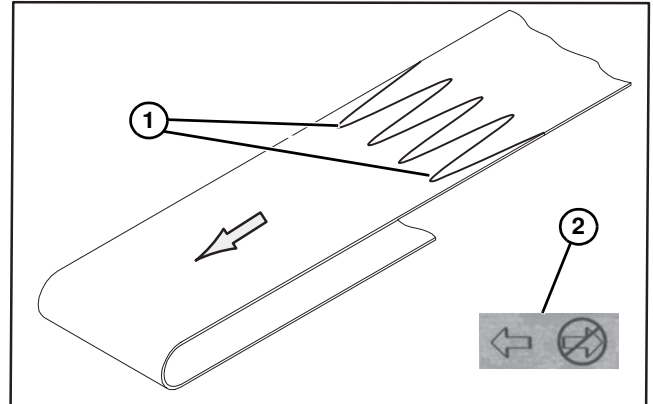

Figure 50
1. Orient belt so splice outer fingers (Figure 50, item 1) point in the direction of belt travel as identified by the conveyor directional label (Figure 50, item 2).
2. Orient belt so splice outer fingers (Figure 50, item 1) point in the direction of belt travel as identified by the conveyor directional label (Figure 50, item 2).